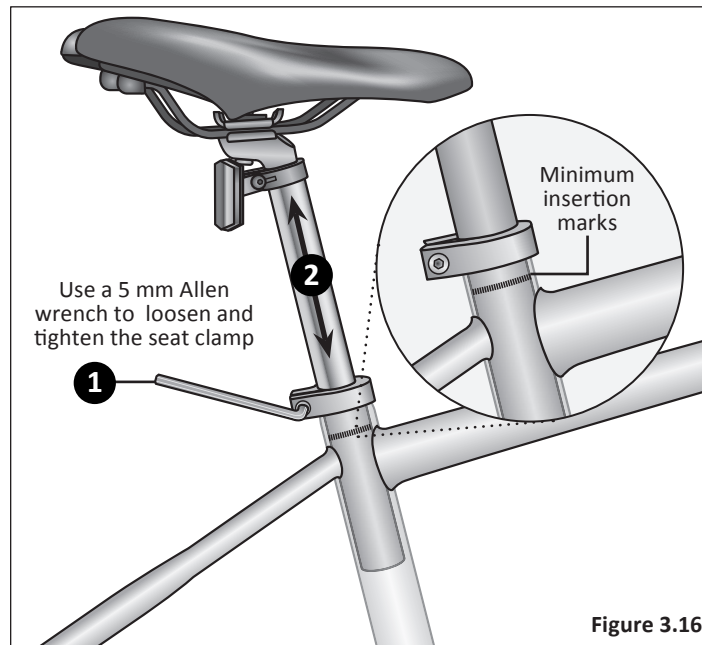

Figure 3.16
- 1 Using a 5 mm Allen wrench, loosen the seat clamp bolt and insert the seat post into the seat tube. **Figure 3.16**